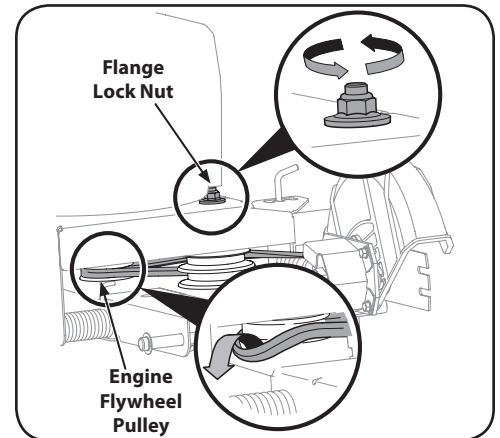

Figure 4-4
NOTE: To aid in reassembly, note the orientation of the drive belt on the two idler pulleys and the engine flywheel pulley prior to performing the following steps. Refer to Figure 4-4.
1. Working in front of the edger, loosen the flange lock nut on top of frame, allowing the idler pulley assembly to pivot slightly out from the frame. See Figure 4-4.
2. With your other hand, carefully reach under the rear of the edger and remove the belt from around the engine flywheel pulley. See Figure 4-4.